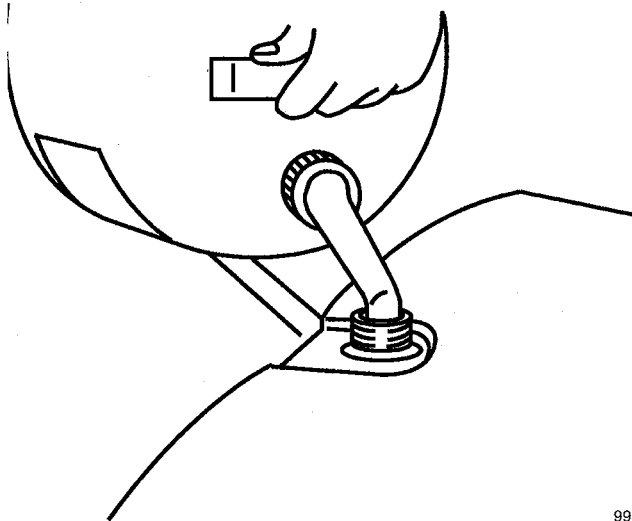

Figure 10
1. Clean around fuel cap before removing (Fig. 10). Fill fuel tank with gasoline/oil mix to within 1/4 inch (6.5 mm) of top of tank, not into filler neck. DO NOT OVER-FILL TANK. Replace fuel cap securely and wipe up any spilled fuel.